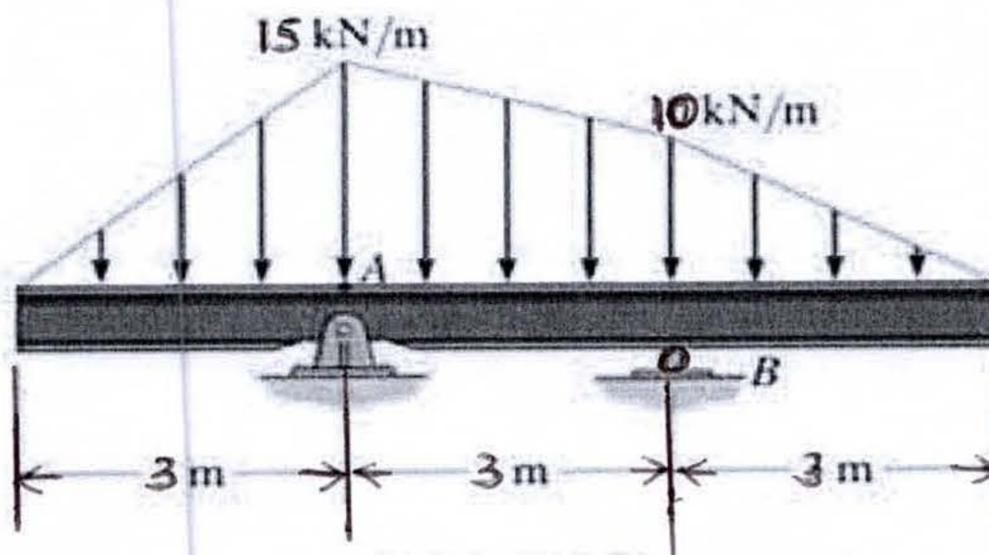

Fig.2
b) Replace the distributed loading in Fig. 2 with an equivalent resultant force, and specify its location on the beam measured from point A